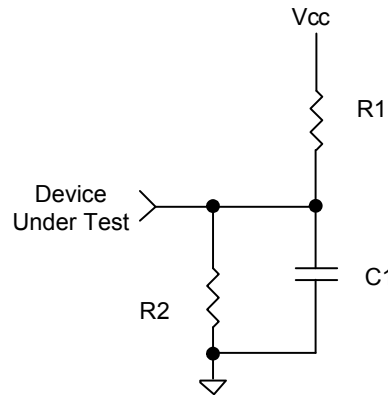

Figure 6: AC Test Load
4. With load specified in Figure 6 on page 29, Test Load A from Table 7.
5. With load specified in Figure 6 on page 29, Test Load B from Table 7.